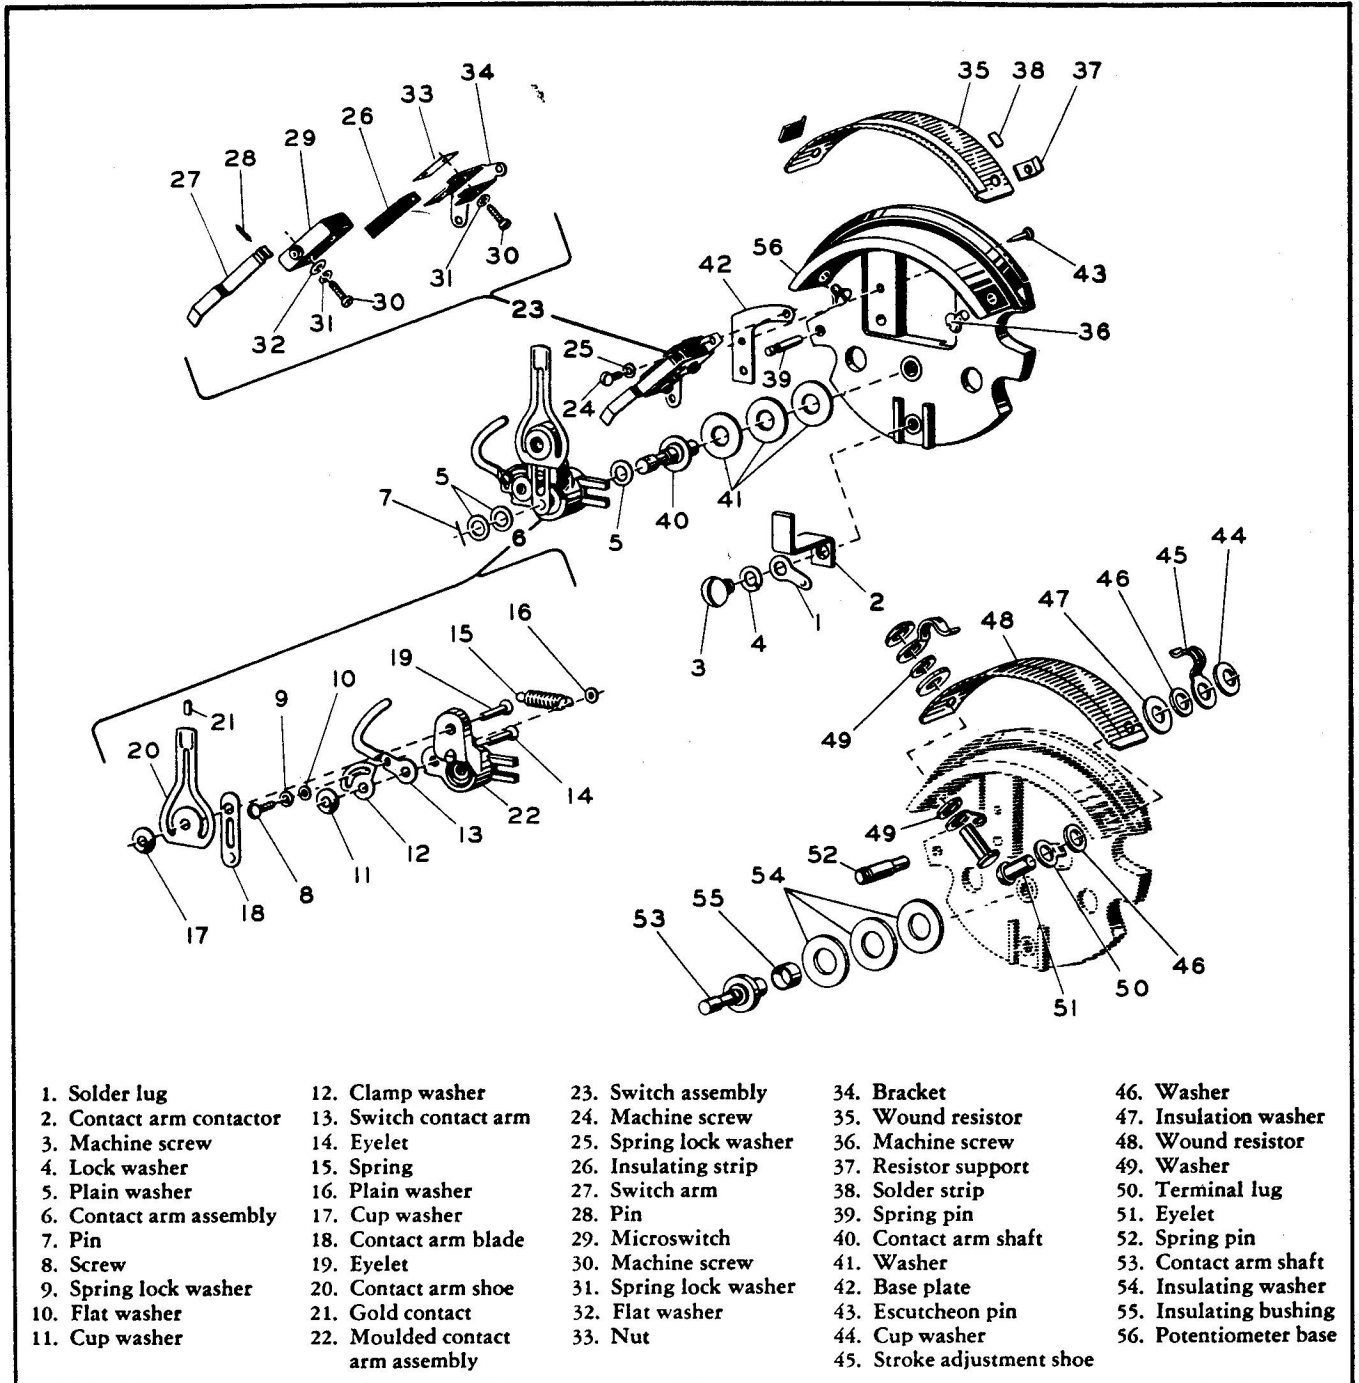

Figure 4-239. Potentiometer Assembly for Tank Units EA1060W-821A, EA1060W-821AB, EA1060W-873 and EA1060W-873A
See paragraphs 2-28 thru 2-30. For repair or potentiometer, see paragraphs 2-69 thru 2-74. If switch (29, figure 4-239) is defective, replace it. Repair is not practical.
c. To position switch contact arm (13, figure 4-239) for proper contact, loosen screw (8) and move arm to correct position on clamp washer (12). If contact is not properly made, bend contact arm to correct position.